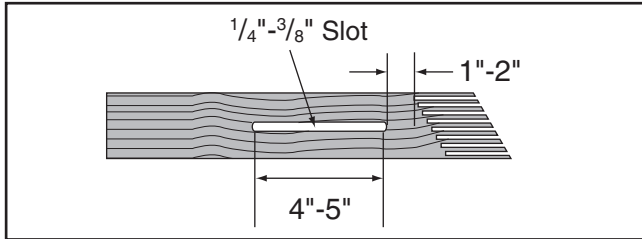

Figure 126. Slot routed in featherboard.
- Route $\frac{1}{4}$ "– $\frac{3}{8}$ " wide slot 4"–5" long in workpiece and 1"–2" from short end of featherboard (see **Figure 126**).